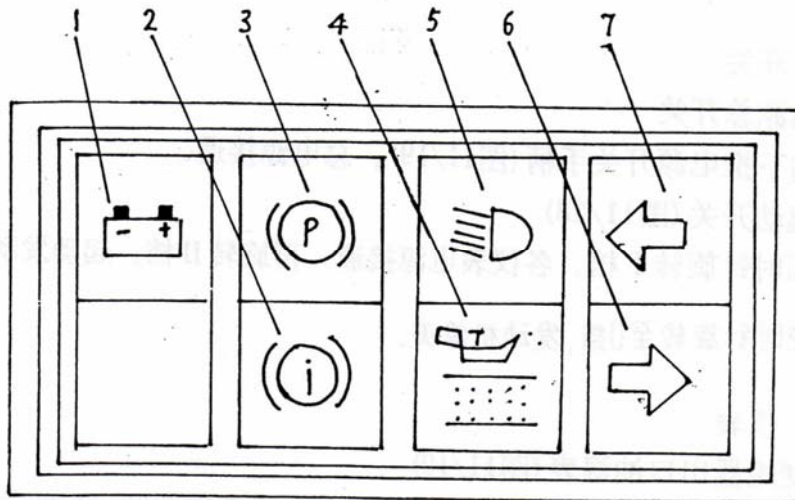

Fig. 12
7.3.3 Four-gang indicator lamp (Fig. 12)
1) Charge indicator lamp, red (Fig.12/1)
2) Indicator lamp for brake service pressure, red (Fig.12/2)
3) Indicator lamp for brake, red (Fig.12/11)
4) Indicator lamp for hydraulic oil filter, red (Fig.12/4)
5) Indicator lamp for far light, blue (Fig.12/5)
6) Indicator lamp for right turning, green (Fig.12/6)
7) Indicator lamp for left turning, green (Fig.12/7)